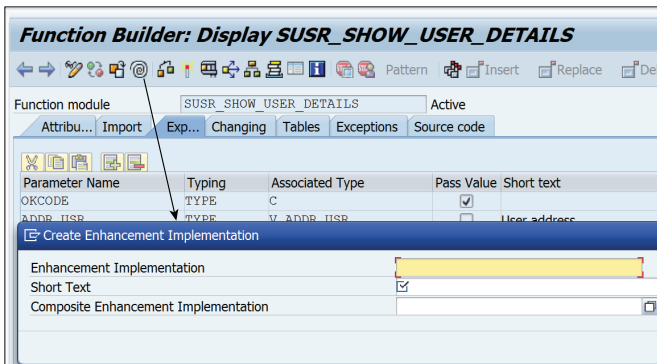

Figure 20.57 Create Enhancement
2. Click on the **ENHANCE** icon (see Figure 20.57) in the toolbar. The system will prompt you to create an enhancement implementation. Create an enhancement implementation as explained in Section 20.9.1.